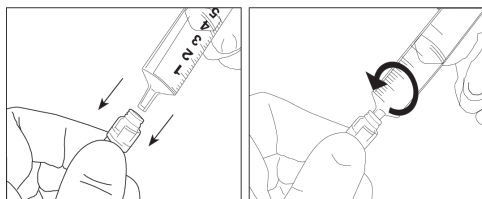

Figure 2: Male Slip Luer (MSL)
2. Using aseptic technique, carefully connect the syringe or extension set to the port by pushing the syringe or other luer connector straight into the needleless injection port using a clockwise, twisting motion. See Figure 2. Do not try to insert at an angle or try to pry open the slit in the port.